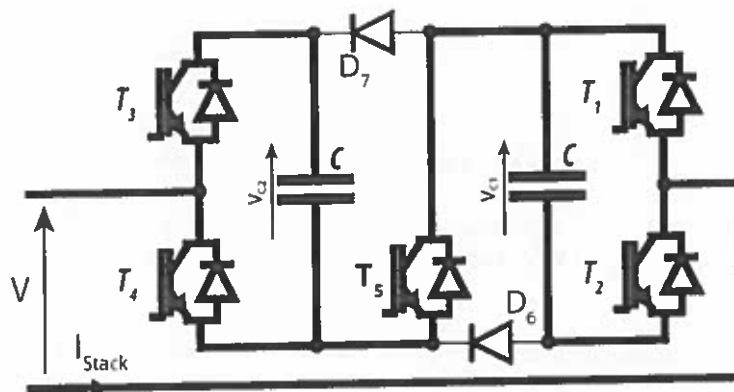

Figure 5.1: Diode Clamped Submodule
- c) Explain how the Double Clamped Submodule, shown in Figure 5.1, operates. [6]